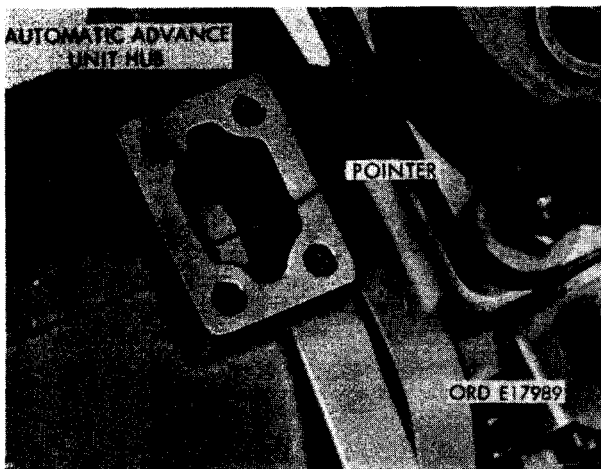
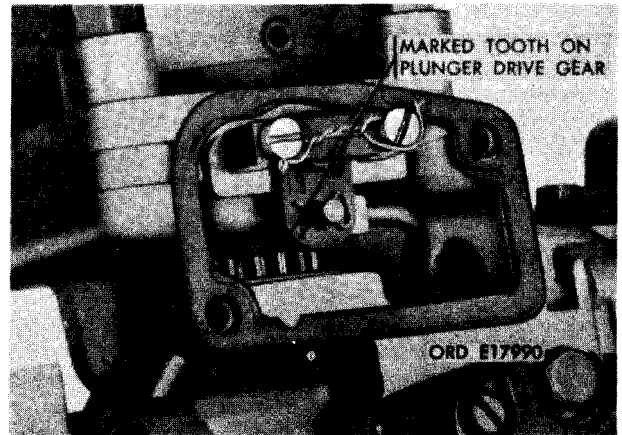
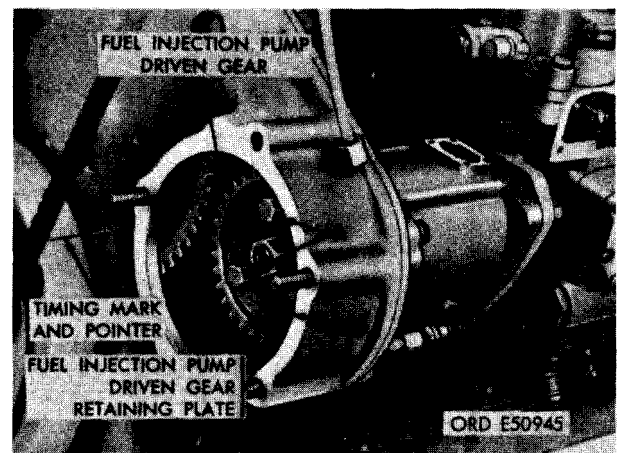

FIGURE 64. CHECKING TIMING MARK AND POINTER ALINEMENT AT FUEL INJECTION PUMP AUTOMATIC ADVANCE UNIT HUB .
FIGURE 65. CHECKING MARKED TOOTH POSITION THROUGH FUEL INJECTION PUMP TIMING WINDOW COVER .
FIGURE 66. REMOVING OR INSTALLING FUEL INJECTION PUMP DRIVEN GEAR RETAINING PLATE .
- (10) Observe timing mark on fuel injection pump advance unit hub as shown in figure 64. Timing mark must aline with pointer as shown and timing mark on crankshaft damper and pulley assembly must aline with pointer on gear cover as shown in figure 61.
- (11) Observe timing mark on fuel injection pump plunger drive gear through timing window cover opening as shown in figure 65. The marked tooth must be visible when pointer in automatic advance unit is alined with timing mark on hub (fig. 64) and mark on crankshaft damper and pulley assembly is alined with pointer on gear cover (fig. 61).
- (12) Complete removal of fuel injection pump as follows.
- (13) Figure 66. (A) Remove three 3/8 x 1- 1/4 cap screws and 3/8-inch lock washers securing fuel injection pump driven gear retaining plate. (B) Remove retaining plate.
- (4) Time fuel injection pump assembly. The timing mark on the "automatic advance unit hub (fig. 64) must be alined with pointer when the marked tooth in the timing window (fig. 65) is visible. It is possible to have the timing marks in the advance unit alined and not have the marked tooth on the plunger drive gear in the timing window visible. When the marked tooth is visible and the advance unit marks are alined, the pump is properly timed. If the marked tooth is not visible, rotate the gear hub 360 degrees, in either direction so the timing marks do aline. This insures proper timing when the pump is installed on the engine.
- (5) Check engine timing before installing fuel injection pump. The engine timing is correct when the mark on crankshaft damper and pulley assembly is alined with the pointer as shown in figure 66, and when No. 1 piston is on the compression stroke. For convenience, the engine timing marks were alined before the pump was removed. When engine timing marks are not alined, rotate the engine clockwise as viewed from the front until timing mark on damper and pulley assembly is alined with pointer, and No. 1 piston is on compression stroke as illustrated and instructed in figures 62 and 63.
**d. Installation.** Install fuel injection pump on engine as described in (1) through (7) below.
- (1) Install fuel injection pump assembly on engine. Refer to figures 64 through 71 and reverse the sequence of illustrations and instructions to install fuel injection pump assembly on engine.
- (2) Install fuel injection pump driven gear and time pump in relation to engine timing. Refer to figures 66 and 67 and reverse the sequence of illustrations and instructions to install fuel injection pump driven gear. Do not tighten the three 3/8 x 1-1/4 cap screws securing driven gear and driven gear retaining plate at this time.
- (3) Check fuel injector pump timing in relation to engine timing Before completing fuel injection pump installation, check pump to engine timing. Rotate crankshaft 90 degrees from timing marks. Return crankshaft to timing mark position and check alinement.
- (a) Mark on crankshaft damper and pulley assembly must be alined with pointer on timing gear cover (fig. 66).
- (c) The mark on fuel injection pump automatic advance hub must be alined with pointer (fig. 64) and the marked tooth on plunger drive gear must be visible through timing window (fig. 65).
- (d) When timing marks on fuel injection pump and engine are not alined remove fuel injection pump driven gear retaining plate and gear following the instructions which accompany figures 66 and 67. Check engine and pump timing (c (4) and (5) above) and repeat step (2) above.
- (4) **Secure Fuel Injection Pump Driven Gear.** Tighten cap screws securing fuel injection pump driven gear and driven gear retaining plate as follows.
- (5) Figure 77. (A) Rotate fuel injection pump automatic advance unit shaft as necessary in either direction until mark on hub alines with pointer (fig. 64). Hold shaft in alined position. (B) Tighten three 3/8 x 1-1/4 cap screws to a torque of 275 to 325 pound inches to secure fuel injection pump driven gear and retaining plate.